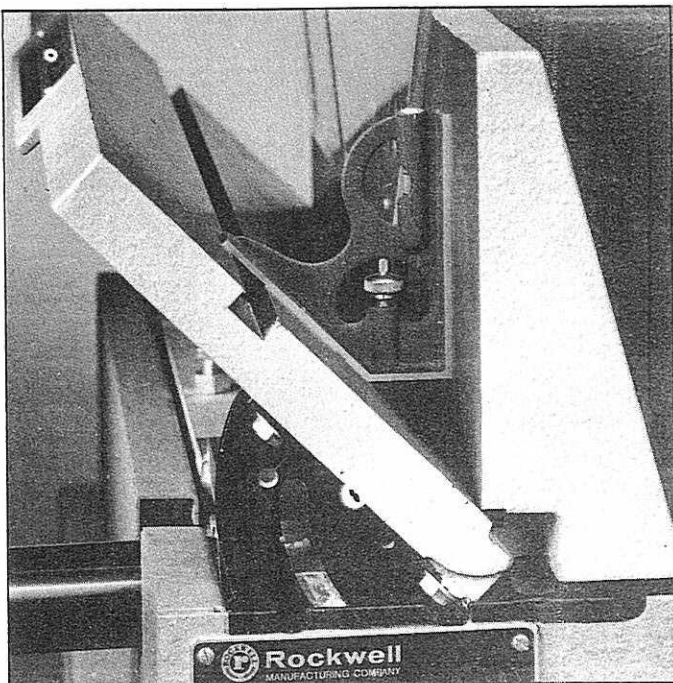

Fig. 5.
2. For an accurate setting at  $45^{\circ}$ , place head of combination square between table and fence, as shown in Fig. 5.